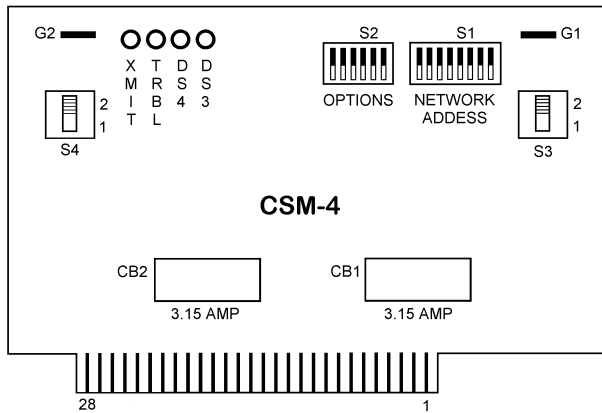

Figure 1
The CSM-4 has two diagnostic and two user programmable LEDs (See Figure 1). In addition, each circuit is equipped with transient and noise suppression.
The Network address is set on switch S1 (See Figure 1). See the CSG-M printout for the proper address. Use Table 1 to set the switches.
* See Figure 1.